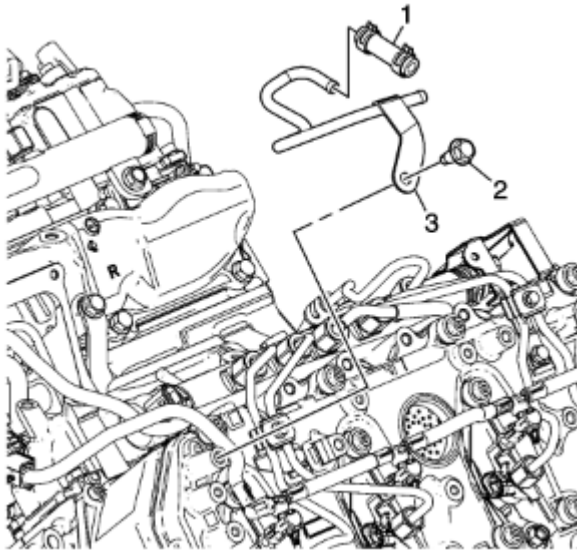

Fig. 104: Fuel return pipe installation
- i. Install the fuel return hose (item 1 in figure 104) and the fuel return pipe (item 3 in figure 104). Install the mounting bolt and torque the bolt to 18 ft-lb.